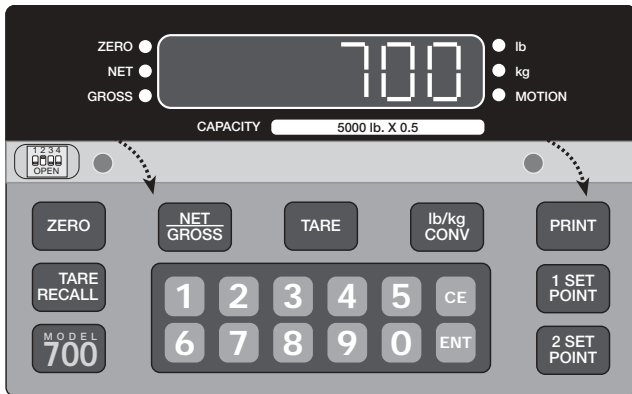

Figure 3-1. Accessing the Program Switches
1. Unscrew the two screws on the face plate bracket (Figure 3-1). The bracket drops down, exposing four program switches on the left.